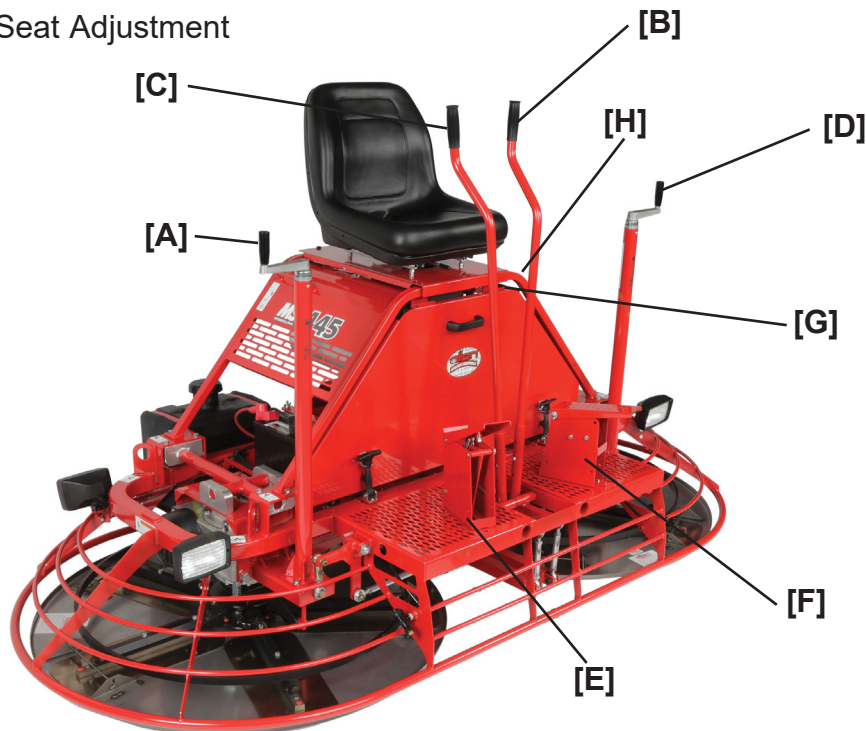

FIGURE 2.3.1
- 2) With the operator in the seat, show him the functions of the joysticks **[B]** and **[C]** and how to start the machine. Refer to Figure 2.3.1.